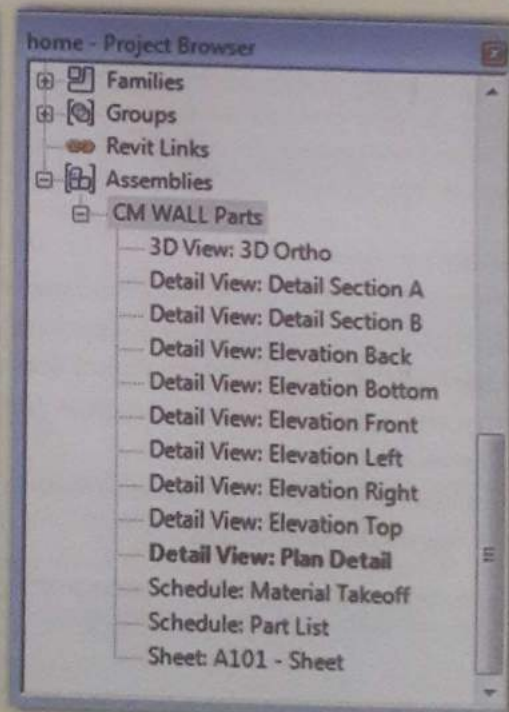

Figure 110: Project Browser
9. Automatically opens one of the assembly views. In the project browser a set of views created under assembly. Expand it and check the different views created (Figure 110).